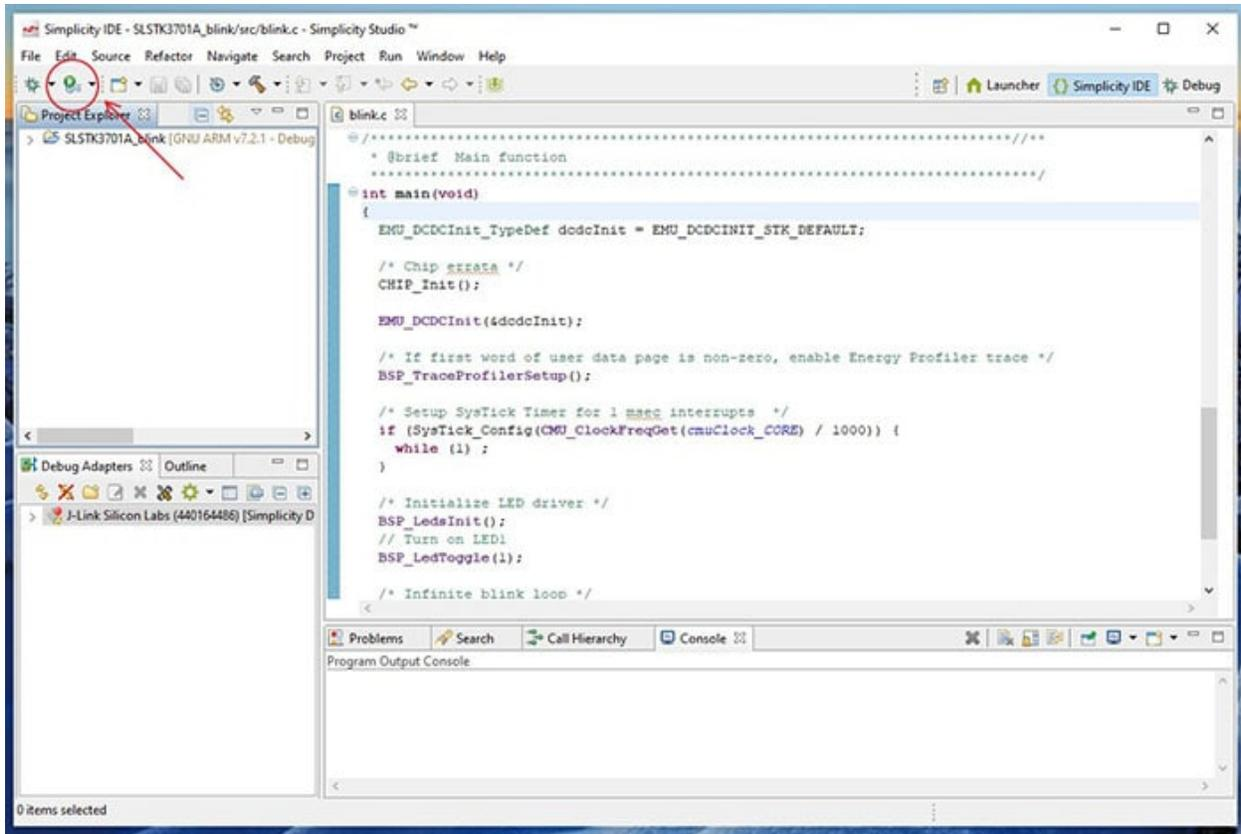

Figure 10: Download the project. (Source: Simplicity Studio)
16. Download and run the application by clicking on the “profile icon”. A dialog box will appear showing download progress. Once complete, the code will execute on the target (Figure 10).